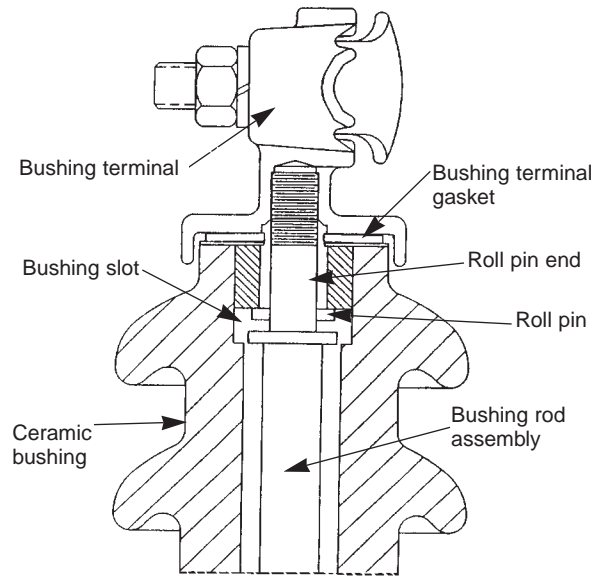

Figure 14.
4. Hand tighten the bushing terminal to the top end of the bushing rod assembly inside of the ceramic bushing (refer to Figure 14). Repeat this step with the other two bushings.